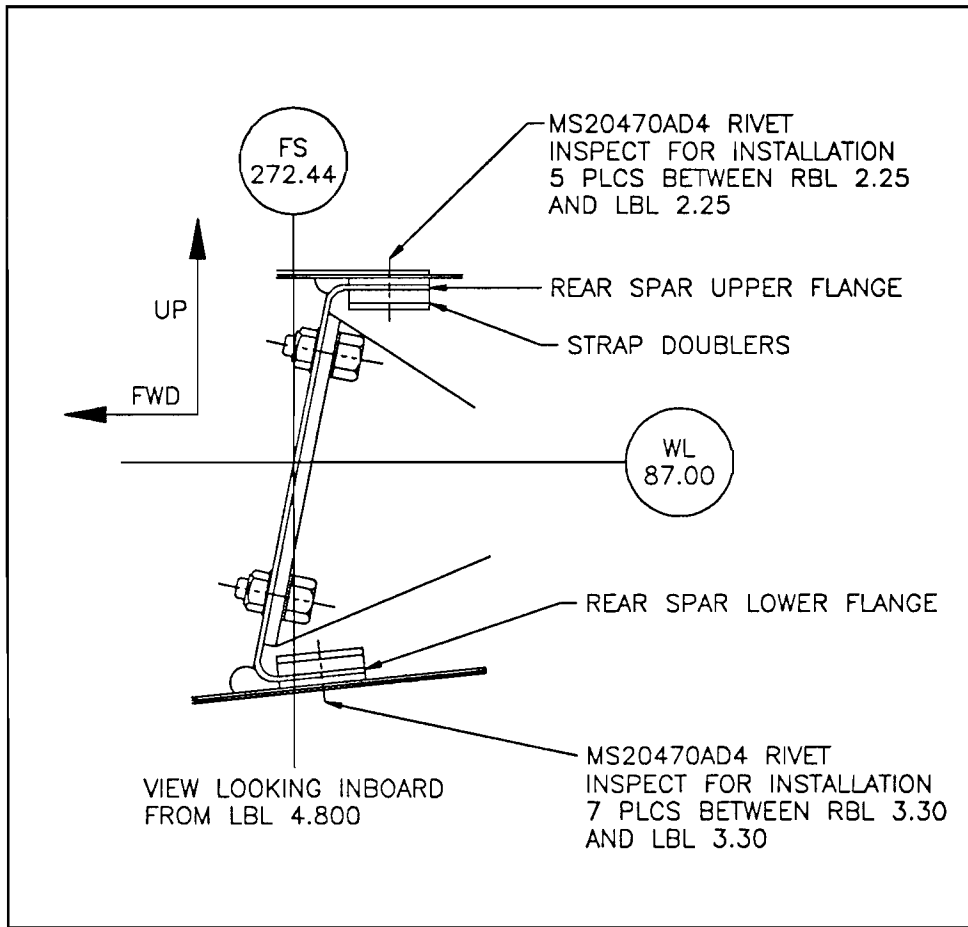

Figure 1
2. Replace any missing rivets with equally spaced MS20470AD4 rivets (see Figure 1).